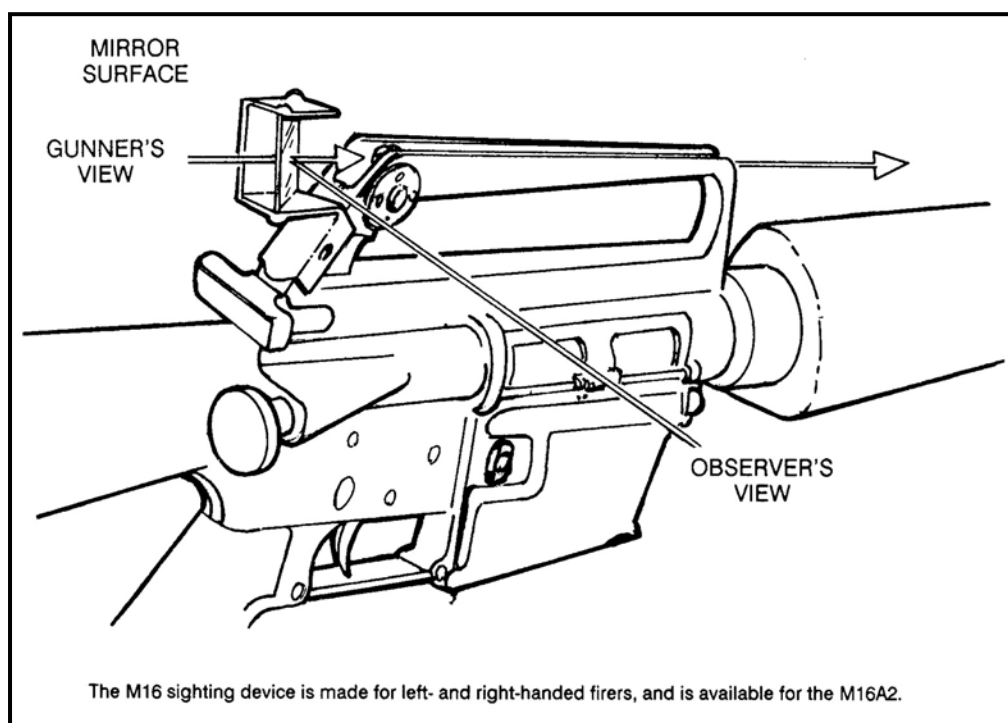

Figure A-3. M16 sighting device.
(4) **M16 Sighting Device.** The M16 sighting device (Figure A-3, page A-4) is made of metal with a tinted square of glass placed at an angle.